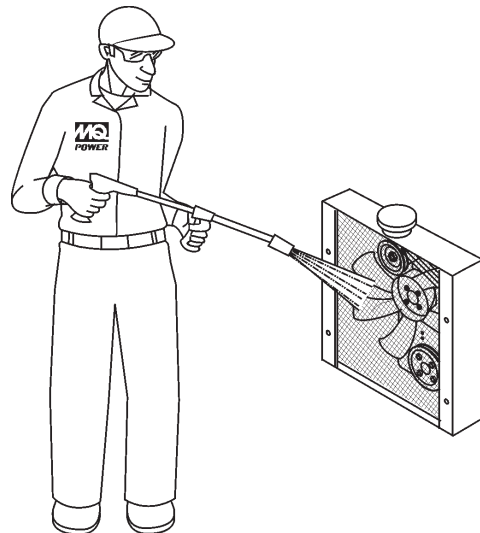

Figure 70. Air Cleaner/Indicator
- The radiator (Figure 70) should be sprayed (cleaned) with a high pressure washer when excessive amounts of dirt and debris have accumulated on the cooling fins or tube. When using a high pressure washer, stand at least 5 feet (1.5 meters) away from the radiator to prevent damage to the fins and tube.